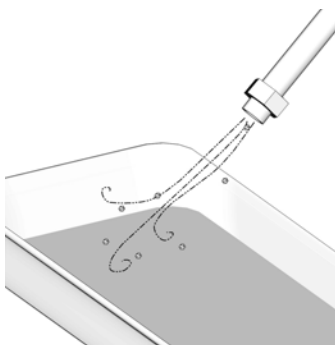

FIG. 74
- b. Blow out entire lubricant supply line with air (FIG. 74).